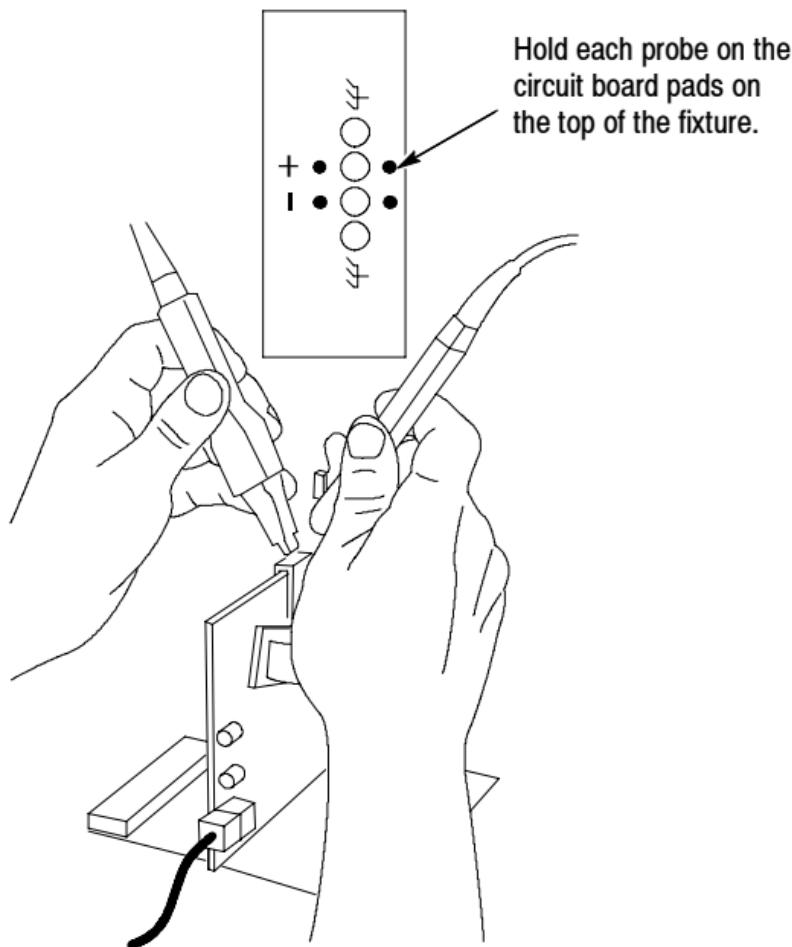

Figure 3: Using the hand-held adapters for the Deskew procedure
- b.** Connect the probes using the hand held adapter as shown in Figure 3 on page 4.